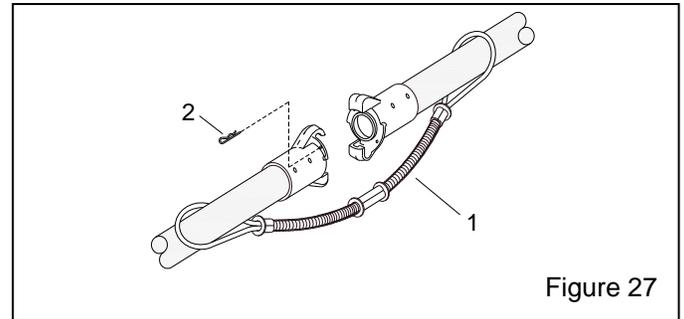

Figure 27
**8.2 Hose-Safety Accessories - Figure 27**
**NOTE: Spring-lock pins are affixed to nylon couplings. When connecting two nylon couplings together, make sure the coupling lock pins are at 180 degrees (Pins should enter the open hole of the adjoining coupling.) One lock pin, as shown in Figure 27, is used when connecting a nylon coupling to a metal coupling, and two lock pins are used when connecting two metal couplings together.**